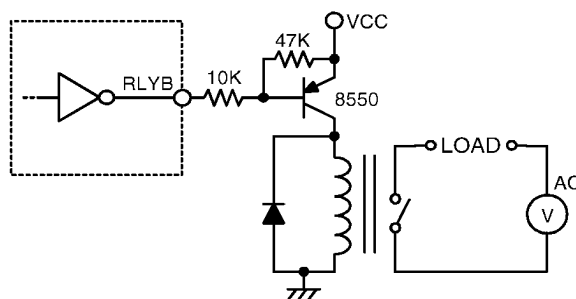
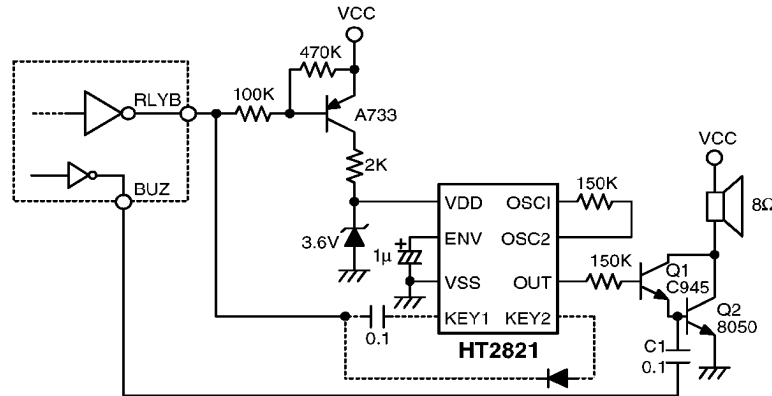

Fig.12 RLYB drive RELAY
Fig.13 RLYB drive tone generator
The low duration is controlled by the delay oscillator and the MODE pin. The pin can be used to drive a RELAY (see Fig.12) or a tone generator (see Fig.13)
In the above example (Fig.13), RLYB drives KEY2 continuously (for ALARM) but drives key1 momentarily (for DOOR BELL). The BUZ output drives Q2 through C1.